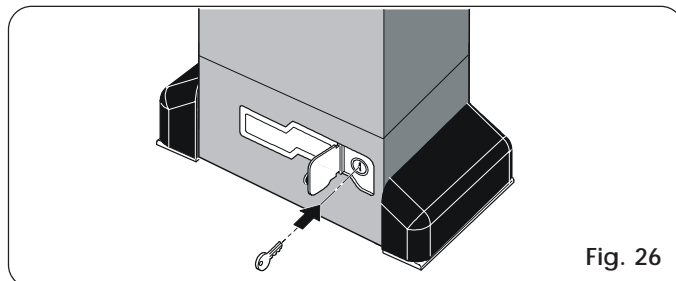

Fig. 26
- 1) Open the protective door and fit the supplied key in the lock (Fig. 26).